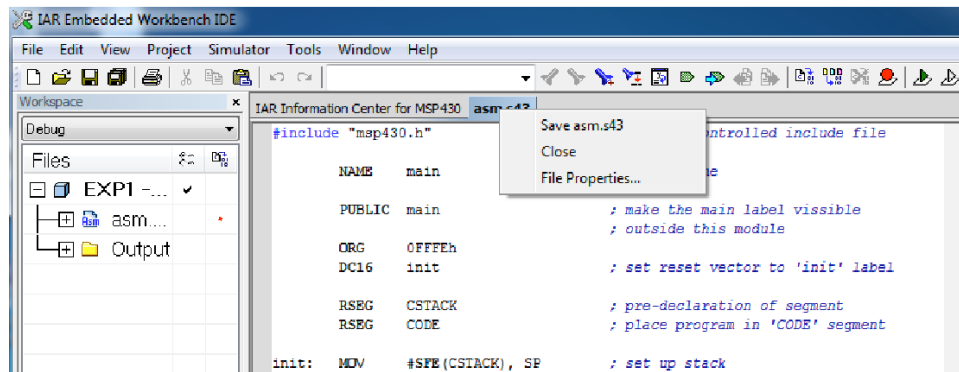

Figure 1.7: Closing asm.s43 tab.
4. Right click the 'asm.s43' tab and choose 'Close' in order to close it. The only reason we are asking you to close this tab is to eliminate the possibility of confusion when you are looking at the different opened files that are available for you to see. You could choose to keep the tab open if you want, but the rest of the lab assumes it has been closed. We will be assigning a '.asm' extension to our assembly language file as opposed to the default '.s43' in the IAR Embedded Workbench. Although we closed the '.s43' tab, the file is still shown in the project tree view located to the left of the screen. We will deal with this in the next step. Figure 1.7 illustrates the available actions when right clicking the 'asm.s43' tab.